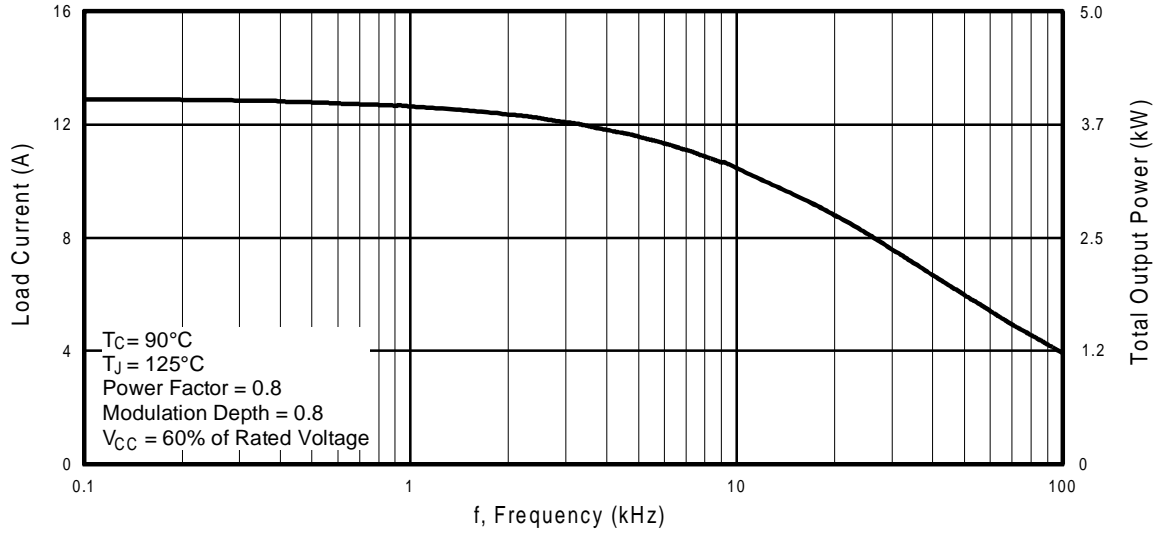

Fig. 1 - RMS Current and Output Power, Synthesized Sine Wave
See Fig. 1 for Current vs. Frequency curve
5.4 A_{RMS} per phase (1.7 kW total) with T_C = 90°C, T_J = 125°C, Supply Voltage 360Vdc, Power Factor 0.8, Modulation Depth 80% (See Figure 1)